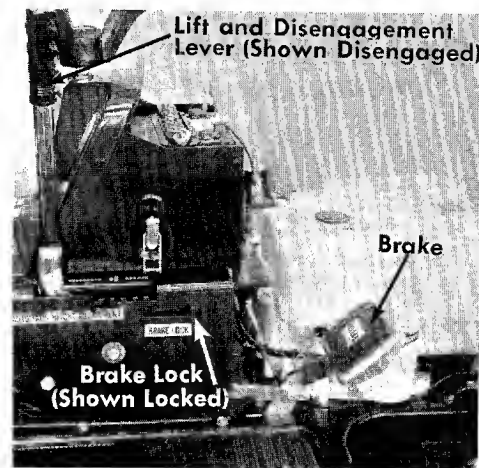

FIGURE 7. RIGHT HAND CONTROLS
c. **Brake.** The brake pedal is located on the right hand side of the mower and is operated by depressing it with your right foot. See figure 7.
d. **Brake Lock.** The brake lock is located on the right hand side of the mower. To lock the brake, depress the brake pedal and lift up the lock button. The pedal will stay depressed. To release, depress the pedal. See figure 7.
j. **Lift and Disengagement Lever.** It is used to raise the cutting deck. Pulling it all the way back and locking it disengages the blades. The engine will not start unless the lift and disengagement lever is in the disengaged position. See figure 7.
Step 3. Place the lift and disengagement lever in the DISENGAGED position. See figure 7.
To stop the blades, move the lift and disengagement lever (figure 7) into the DISENGAGED position. This raises the deck and disengages the blades.